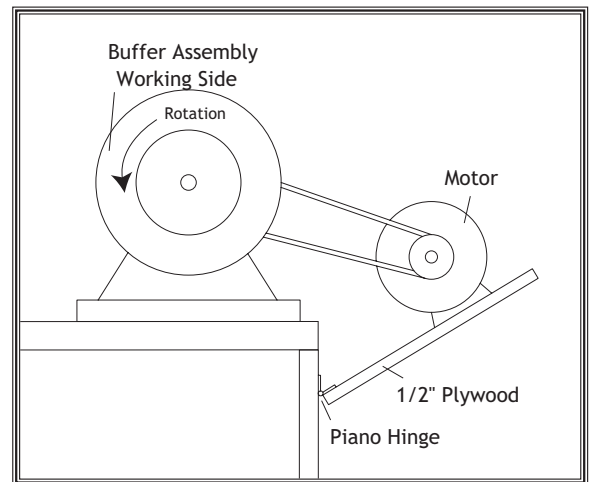

**Figure 5.** Motor and buffing assembly locations.
5. Mount the motor on a 1/2" plywood platform below the buffing assembly so that the motor pulley is directly beneath the arbor pulley. Be sure to orient the motor rotation so the buffing wheels will be rotating downward on the working side of the buffing assembly. Attach the platform to the workbench using a piano hinge, as shown in **Figure 5**.